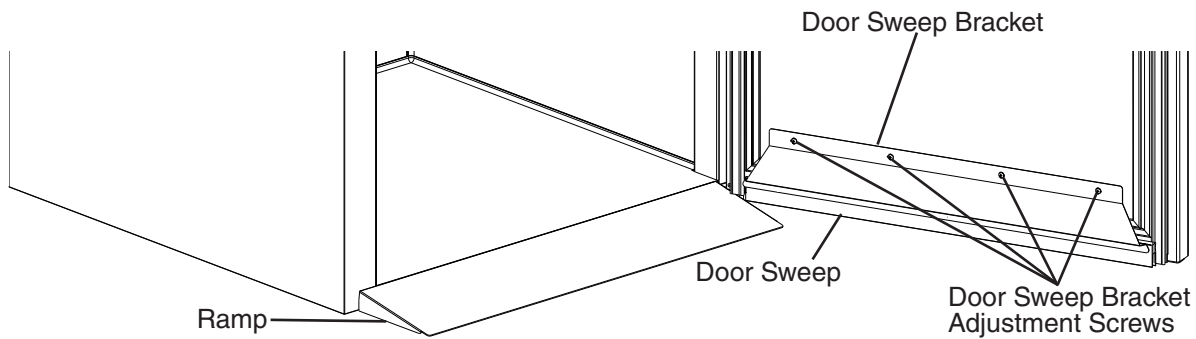

Fig. 7
4) Loosen the door sweep bracket adjustment screws. See Fig. 7.